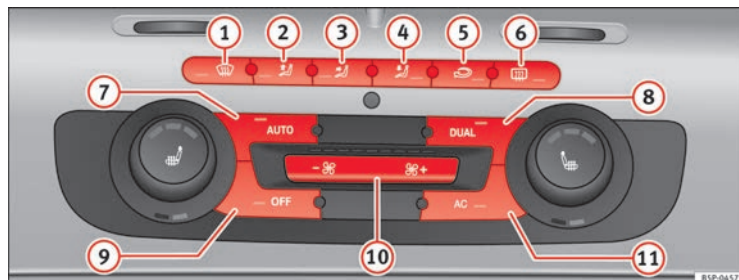

Fig. 113 On the dash panel: 2C Climatronic controls.
- To enter manual mode, press one of the buttons ⇒ fig. 113 1 to 5 or press the air flow control 10. The selected function is shown on the radio or navigator display.
- Press the button  ⇒ **fig. 113 ②** to switch air recirculation mode on or off. It is switched on if the following symbol appears in the display .